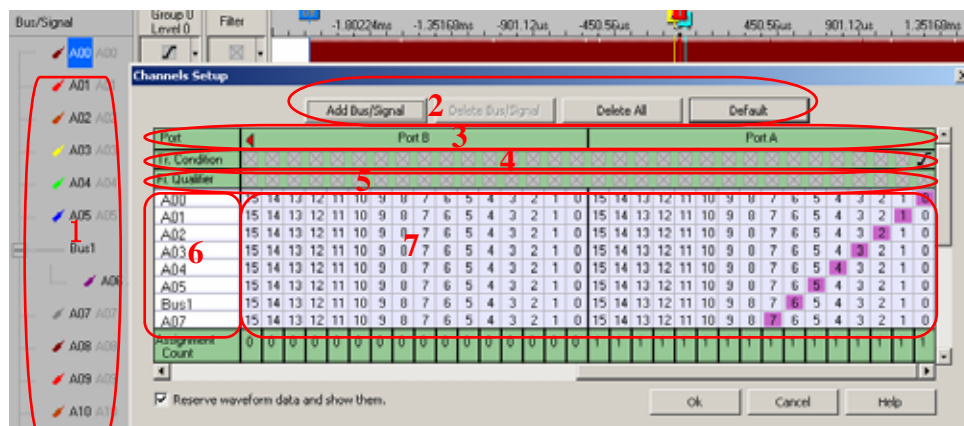

Fig 4-32 – Channels Setup Window
1. Delete Bus/Signal: Firstly highlight the Bus or channels on Area 6 of Fig 4-32, then click **Delete Bus/Signal** to delete them.
2. Delete All: Click **Delete All** to delete all Bus/signals on Area 6 of Fig 4-32.